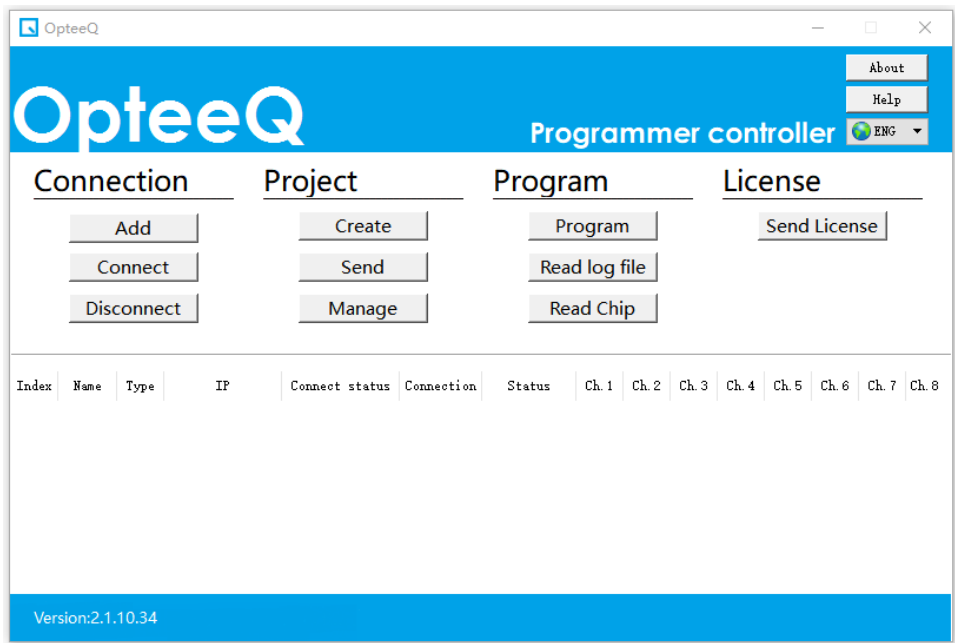

Figure 1.12: Step 12 - Main Interface of Programmer Software
Step 12: Double-click the desktop icon of the software to pop up its main interface, as shown in Figure 1.12.